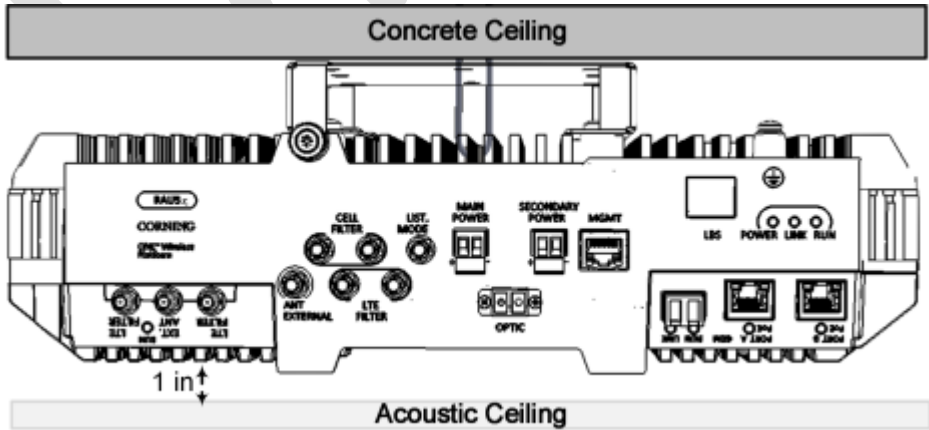

Figure 4-1.Example of (Concrete) Ceiling Installation of Mounting Bracket (RAU5x without External Antenna)
- When mounting the bracket on a wall the captive screw (indicated in Figure 4-1) should always be positioned in the same direction as the RAU5x connectors.